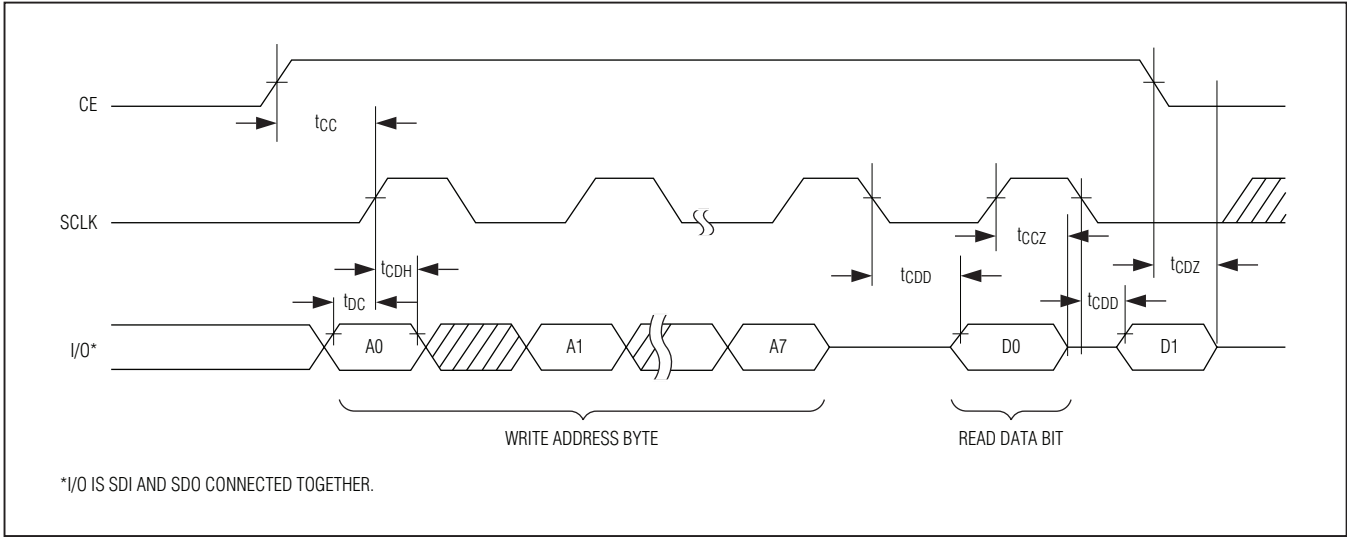

Figure 1. Timing Diagram: 3-Wire Read Data Transfer
**AC Electrical Characteristics: 3-Wire Interface**(VDD = 1.7V to 3.7V, TJ = -55°C to +125°C, unless otherwise noted.) (Figures 1, 2)